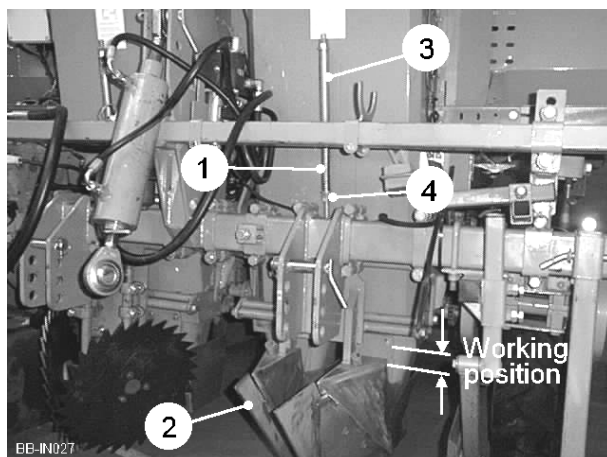

Fig 6
The bottom springs (item 1, figure 6) allow the openers (item 2, figure 6) to ride over obstructions reducing damage to the planter. The top springs/spacers (item 3, figure 6) carry the weight of the openers and prevent them from 'nose diving' in soft soil. The bottom springs should be set to allow the ground pressure during work to lift the opener into the working position as shown (see figure 6). To adjust, reposition the locknuts (item 4, figure 6). On 2 row machines fitted with an opener depth wheel, the bottom springs should be released to allow the depth wheel to float freely and the top springs should be set to allow 25mm (1") of free downward movement during work.